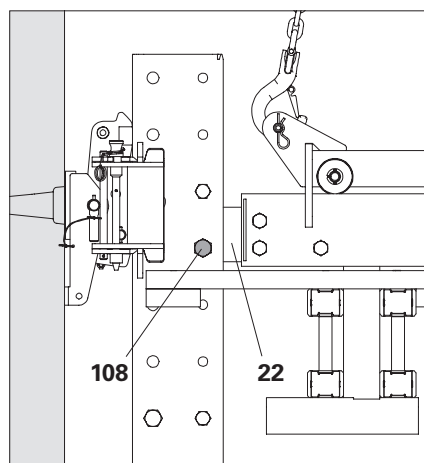

Fig. C3.03a
3. Fix the crossbeam (**21**) with Crossbeam Head RCS/VARIO (**22**) to the climbing rail by fitting a screw M24 x 130-8.8 (**108**) in the 4th hole $\varnothing 26$. (Fig. C3.03a)